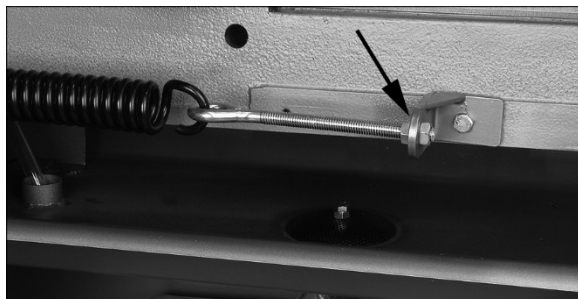

Figure 8-13: Feed Pressure Adjustment
4. If adjustment is needed, loosen one nut and tighten the other (Figure 8-13) on eye bolt, until scale indicates 5 to 6 kg (11-13 lb).